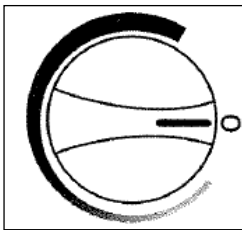

Fig. 1
- When maximum cooling is achieved, turn back the temperature control knob to a desired setting on the graduated blue control dial. **See Fig.1.**